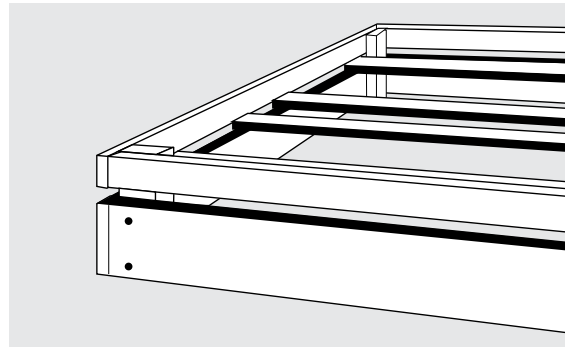

Figure 6: Bottom view of raft
1. Following the illustrations, create the framework shown in Figure 6. With the frame structure upside down, nail on the four cross ties and the four skirt boards.